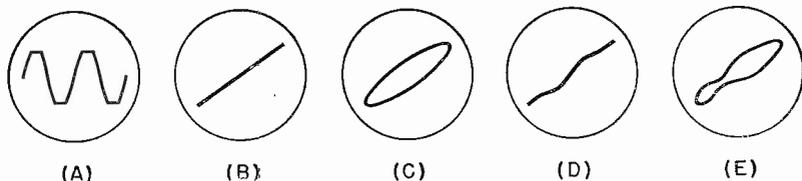

Fig. 3. Oscilloscope patterns for qualitative distortion.
wave pattern become distorted. A common indication of distortion (usually caused by overdriving the stage under test) is shown in Figure 3(A). Here, the top of each peak is flattened off, resembling a square wave
(3) Distortion is indicated whenever the line or the ellipse loses its smoothness, becoming broken, ragged, or fuzzy, as in Figures 3-D and 3-E.
(2) If there is no phase shift within the amplifier under test, a smooth slanting line will be seen on the screen (Figure 3-B) when the test prod is touched to any signal point in the amplifier. In most instances, however, there is some phase shift and a smooth ellipse (Figure 3-C) will be obtained instead of the line.